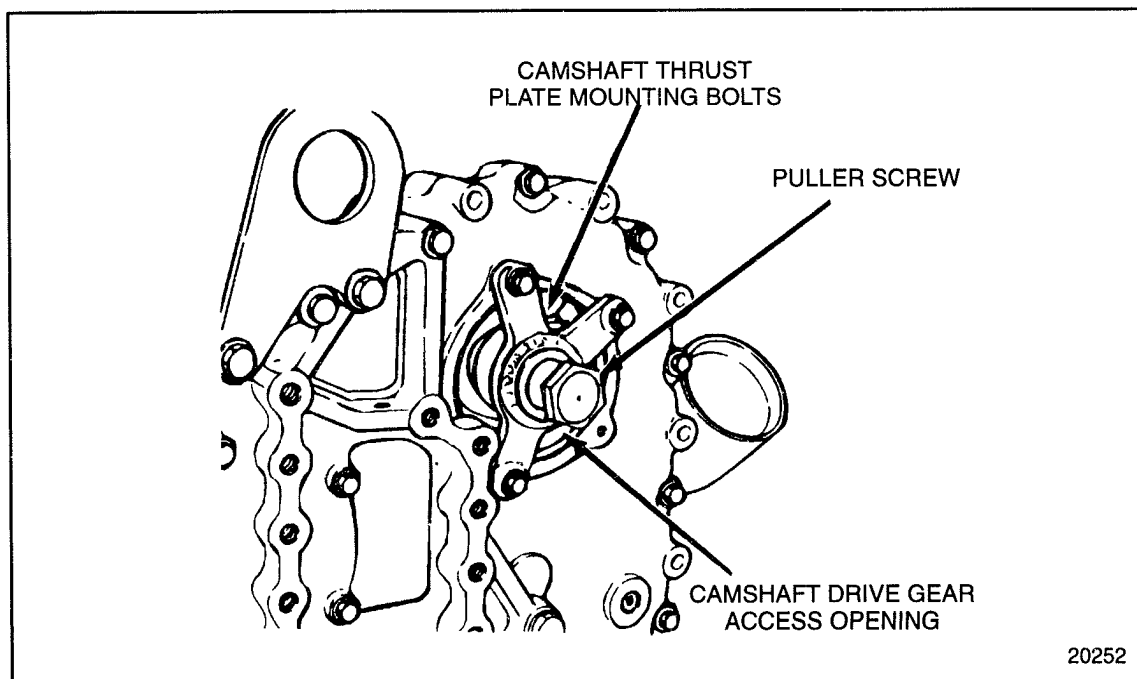

FIGURE 1-279 Camshaft Gear Pilot
11. Install the Camshaft Gear Pilot, J 35906, to the camshaft drive gear access opening, using three of the access cover bolt holes. Engage the puller screw in the threads of the camshaft drive gear hub, until the screw is tight. See Figure 1-279.